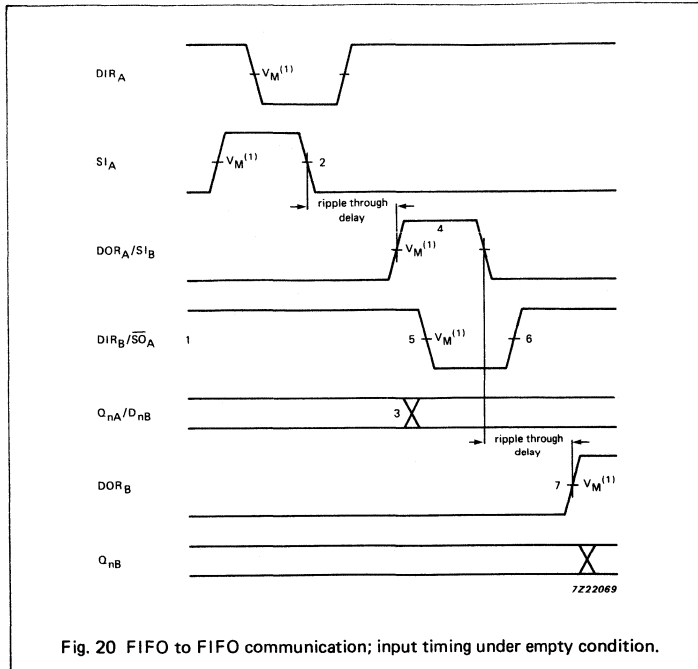

Fig. 20 FIFO to FIFO communication; input timing under empty condition.
Fig. 20 shows the signals on the nodes of both FIFOs after the application of a SI pulse, when both FIFOs are initially empty. After a rippled through delay, data arrives at the output of FIFOA. Due to  $\overline{SO}_A$  being HIGH, a DOR pulse is generated. The requirements of SIB and DnB are satisfied by the DORA pulse width and the timing between the rising edge of DORA and QnA. After a second ripple through delay, data arrives at the output of FIFOB.
**Notes to Fig. 20**
For power dissipation of VCO and demodulator sections see Figs 20, 21 and 22.